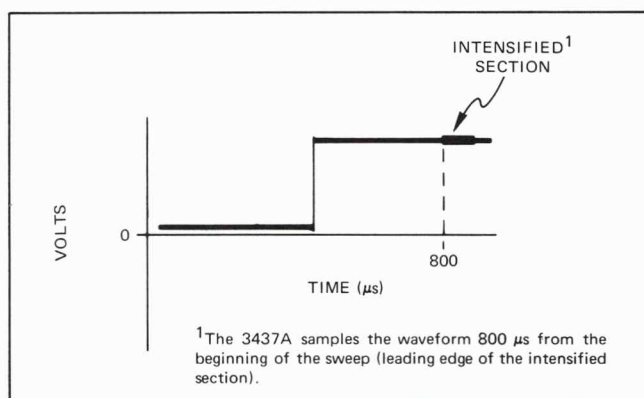

Figure 5-3. Intensified Waveform.
e. Adjust the 3310A output level, oscilloscope trigger and intensity levels, to obtain a display as illustrated in Figure 5-3.
c. Adjust the 3310A output level, oscilloscope trigger and intensity levels, to obtain a waveform as illustrated in Figure 5-3.